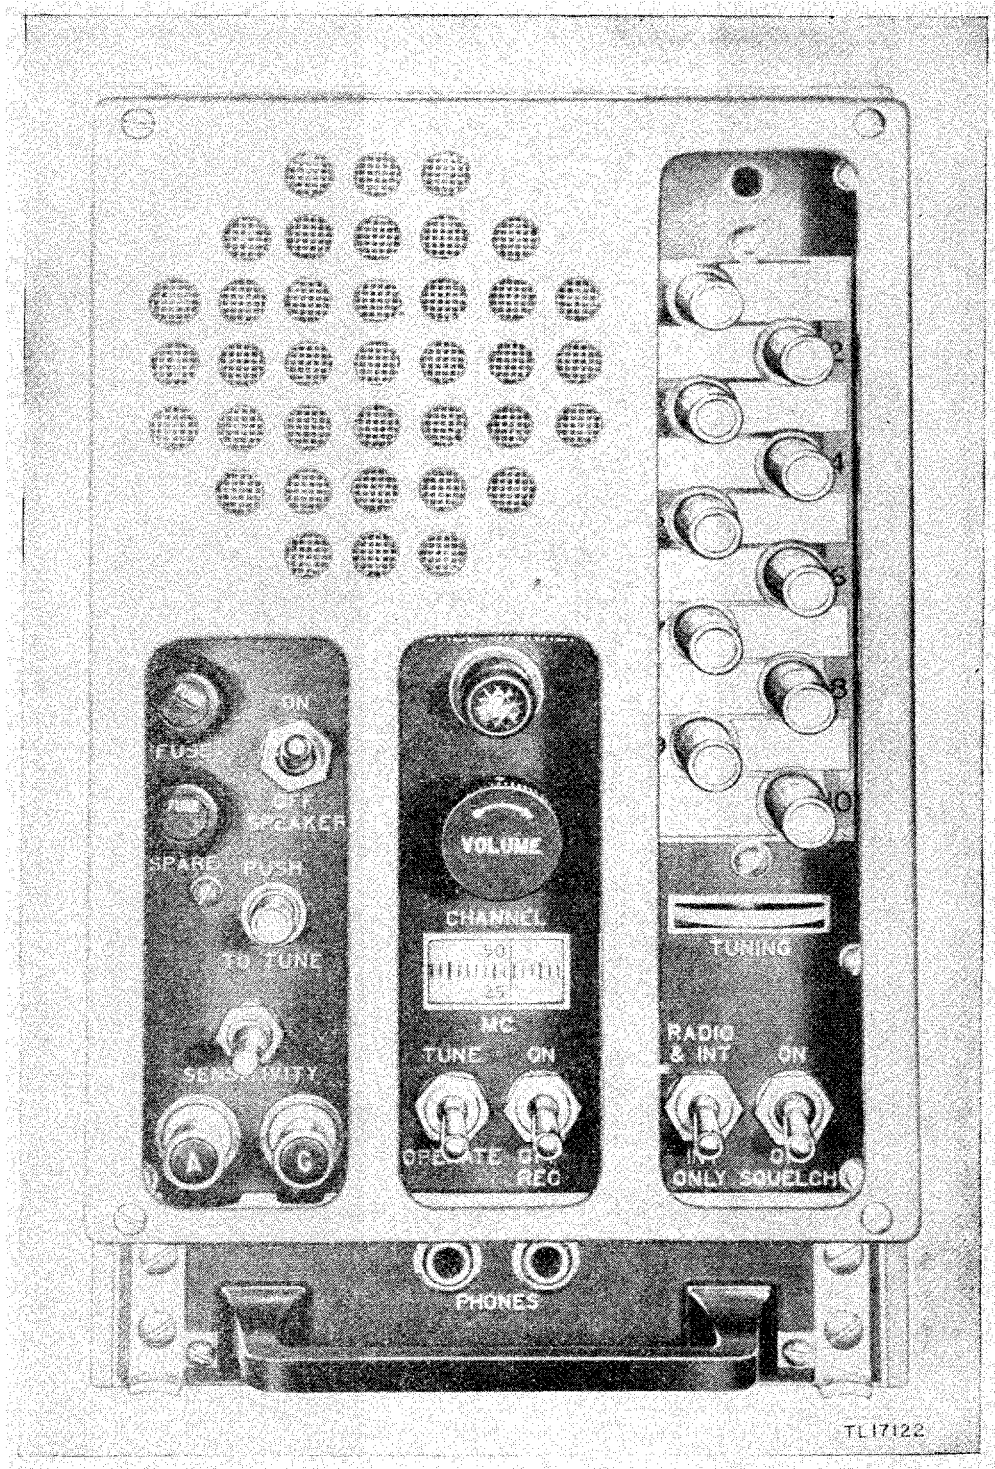

Figure 1. Radio Receiver BC-603-(*)—front view.
Radio Receiver BC-603-(*) (figs. 1 and 2) is a component of Radio Sets SCR-508-(*), SCR-528-(*), SCR-538-(*), AN/VRC-5 and AN/TRR-3. The receiver provides frequency-modulated radiotelephone reception facilities for car, platoon, company battalion, and regimental commanders, and for staff officers and commanders in higher echelon. The receiver may be installed and operated in combat vehicles such as tanks, scout cars, half-tracks and command cars, or any other authorized vehicle. Official nomenclature followed by (*) is used to indicate all models of the item of equipment included in this Technical Manual. Thus Radio Receiver BC-603-(*) represents BC-603-A, -C, -D, -AM, -CM, and -DM.
c. **FUSE REMOVAL.** Two fuses, labeled FUSE and SPARE, are located within the panel guard, below the speaker. (See figs. 1 and 7.) Remove the fuses by inserting a screw driver in the slotted fuse holders and turning counterclockwise. The fuses can easily be extracted from their holding sleeves.